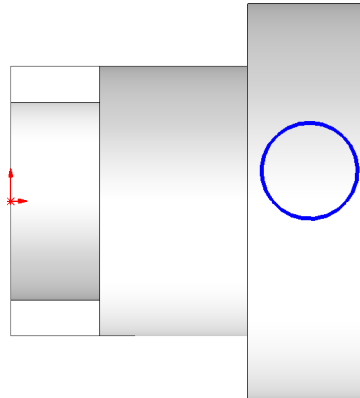

Fig. 17
Step 3. Click **Circle**  (S) on the Sketch toolbar.
Step 4. Sketch a circle, **Fig. 17**.